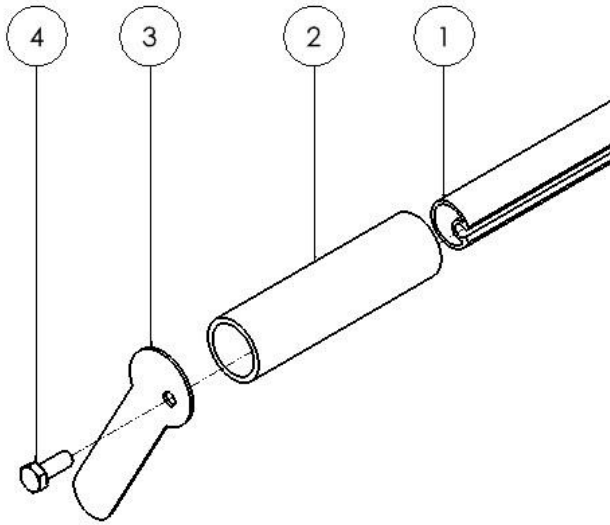

Figure 5.1
Measure the pull bar and verify that it is 12" longer than the width of the tarp. If it is too long cut it to size. On one end of the rear pull bar (1), slide on the 6" plastic handle (2). On the same end, line up the mounting hole on the tarp guide (3) with the slot on the pull bar and secure it with an M10x1.5x25mm hex bolt (4). (Figure 5.1)